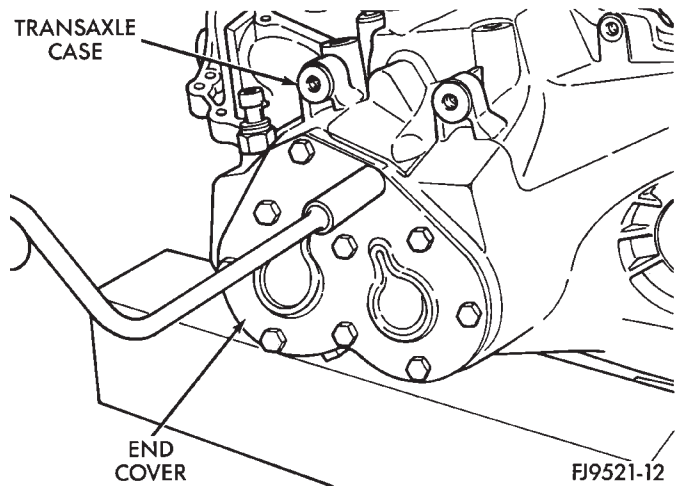
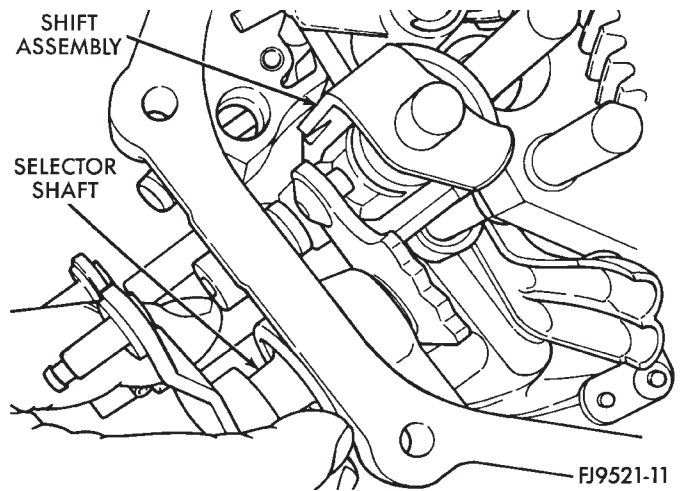
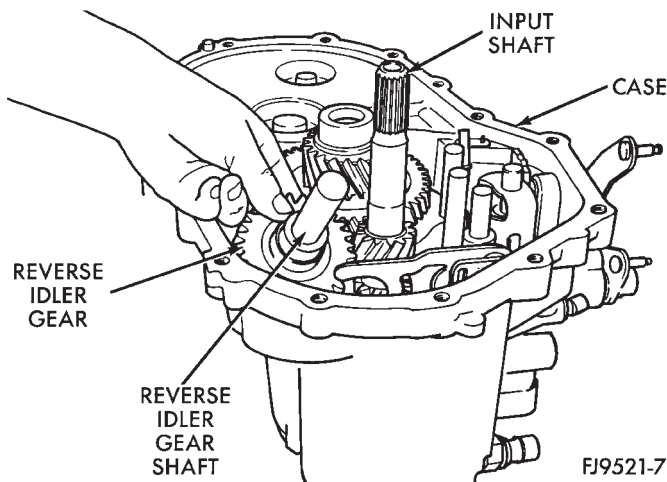
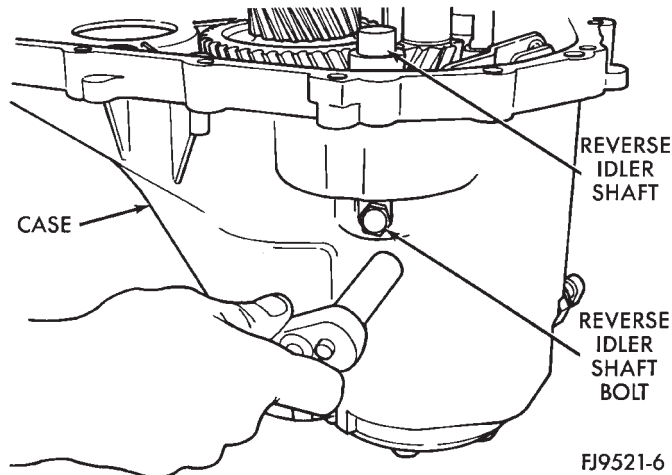

Fig. 78 Transaxle End Cover
Fig. 79 Selector Shaft
Fig. 80 Reverse Idler Gear
Fig. 81 Reverse Idler Shaft Bolt
(13) Apply Mopar® RTV sealant to end-cover outer edge and around bolt holes. Install end-cover onto gear case. Tighten end cover bolts to 29 N·m (21 ft. lbs.) torque (Fig. 78).
(14) Remove gear case from bench fixture.
(15) Install gear case in a holding fixture with end cover facing down.
(16) Turn selector shaft into slot on blocker assembly (Fig. 79).
(17) Push selector shaft spacer clip onto selector shaft. Install shift levers.
(18) Install reverse idler gear and shaft. Install bolt into shaft. Tighten bolt on shaft to 26 N·m (19 ft. lbs.) torque (Fig. 80) (Fig. 81).